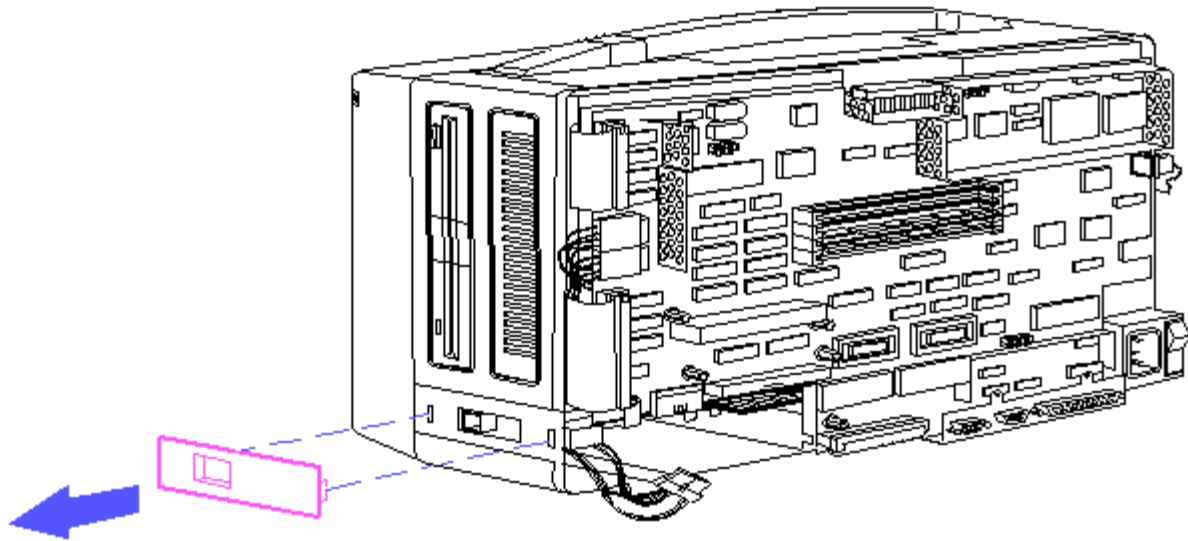

Figure 8-17. Removing the Modem Bezel
7. Remove the modem bezel (Figure 8-17).